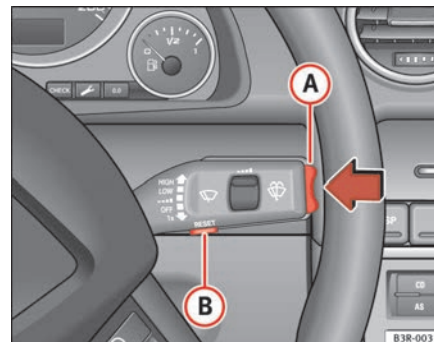

Fig. 62 Windscreen wiper lever: Reset button and rocker switch
Functions of the **Reset** button (B) ⇒ fig. 62 and the **rocker switch** (A):